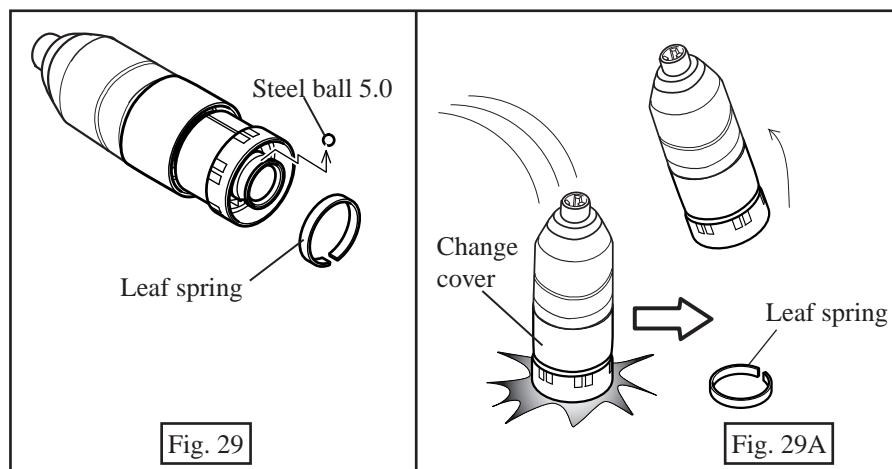

Fig. 29
- (2) Remove leaf spring with No.1R212 "Retaining Ring Plier". Then, steel ball 5.0 can be removed from chuck holder. See Fig. 29.